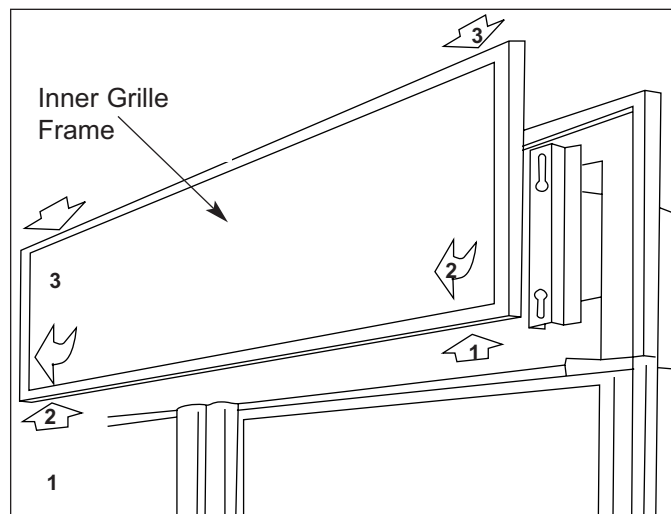

Figure 7-18. Inner Grille Frame Removal
The panel grille assembly consists of an outer and an inner grille frame. The outer grille frame attaches to the unit, while the inner grille frame (which accepts a decorative panel) is easily removable for condenser cleaning purposes. There are pegs on the back side of the inner grille frame which fit in key-hole slots in the outer grille frame. To remove the inner grille frame, lift assembly up (1) and pull out of key-hole slots at the bottom (2). Then, pull down and out of key-hole slots at the top (3). (See Figure 7-18)